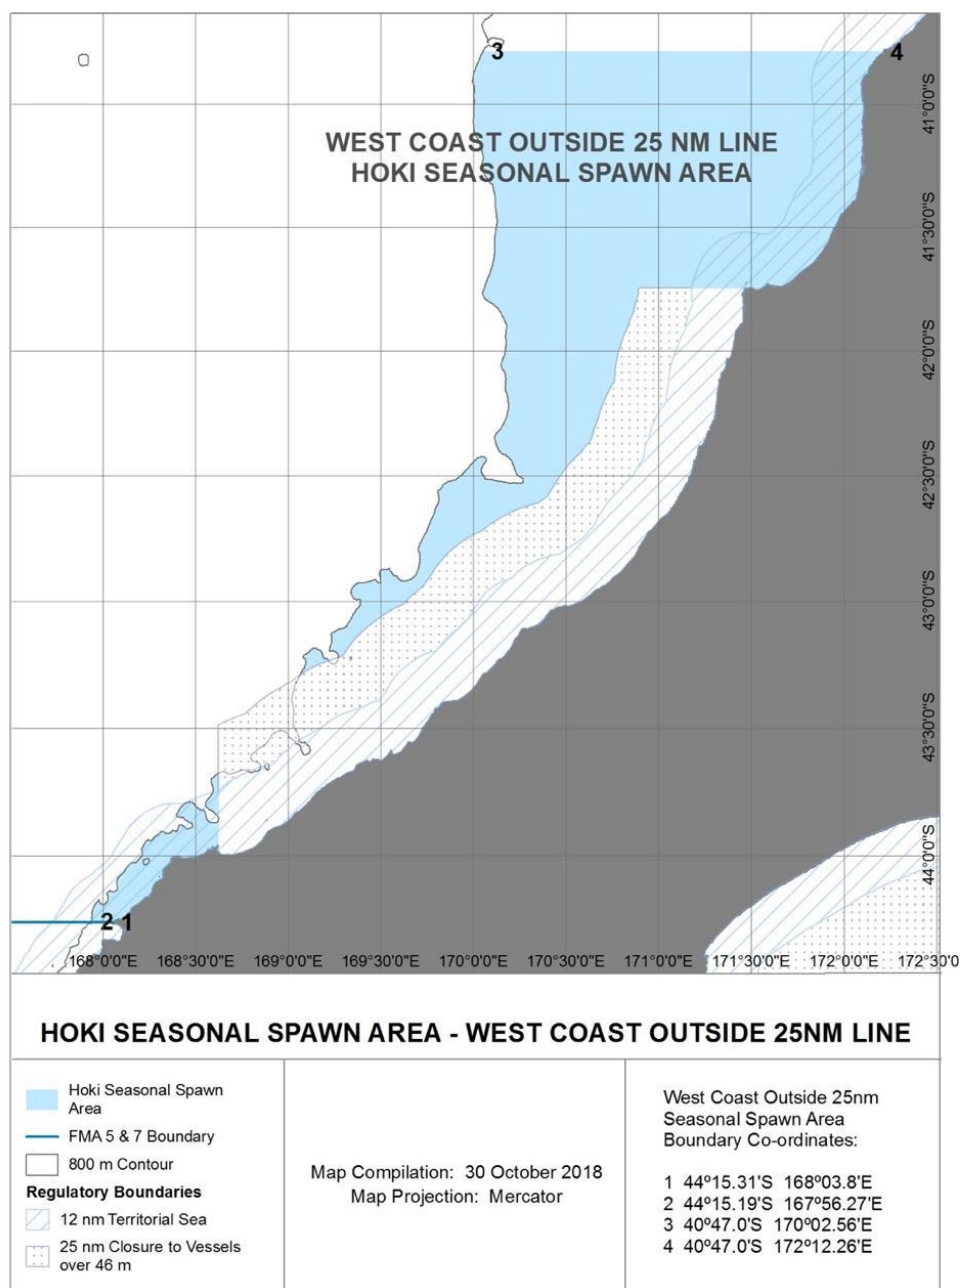

Figure 5: West Coast Outside the 25 nm Line HSSA
- A line extending due west from Kahurangi Point light (40°47'S) to the intersection with the 800 m depth contour (i.e. points 3 and 4 in Figure 5), and
- The line designating the boundary between FMA 5 and FMA 7 from the coast to where it intersects the 800 m depth contour (i.e. points 1 and 2 in Figure 5), and